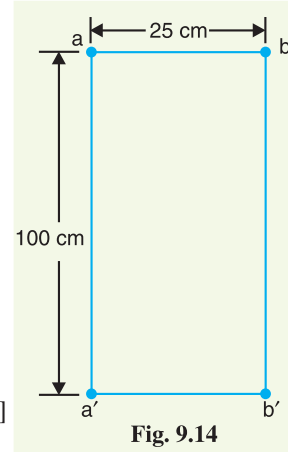

Fig. 9.14
**Solution.** Fig. 9.14. shows the arrangement of double circuit single phase line. Conductors  $a, a'$  form one connection and conductors  $b, b'$  form the return connection. The conductor radius,  $r = 1/2 = 0.5$  cm.